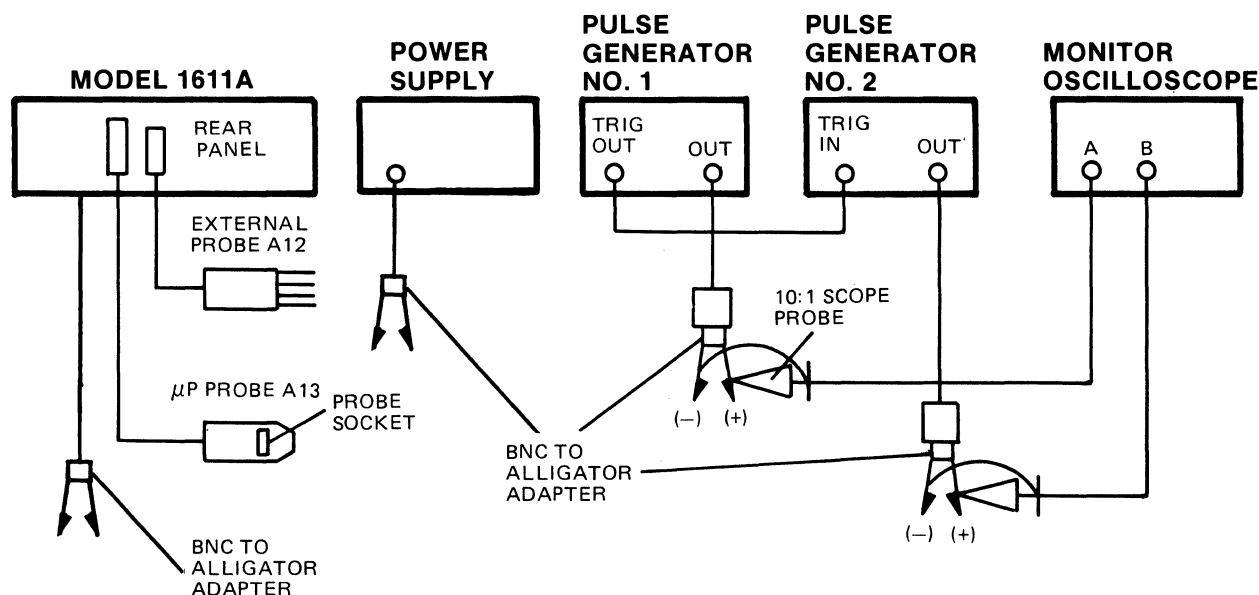

Figure 4-10. Address Lines Test Setup
- Connect test equipment as shown in figure 4-10.